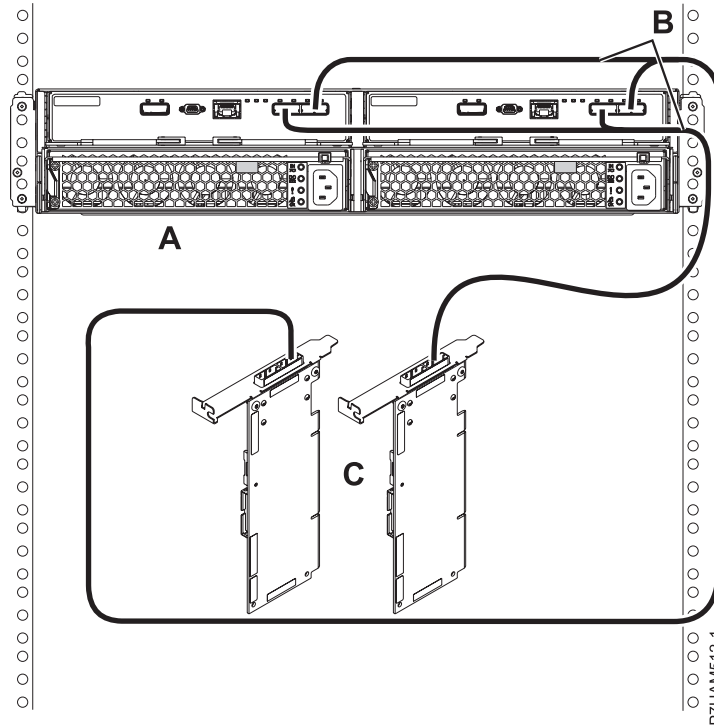

Figure 37. Mode 1 connection of one 5887 disk drive enclosure by using YO cables to a SAS adapter pair
11. Perform the mode 1 connection of one 5887 disk drive enclosure (A) by using YO cables (B) to a SAS adapter pair (C) as shown in Figure 37 on page 79.